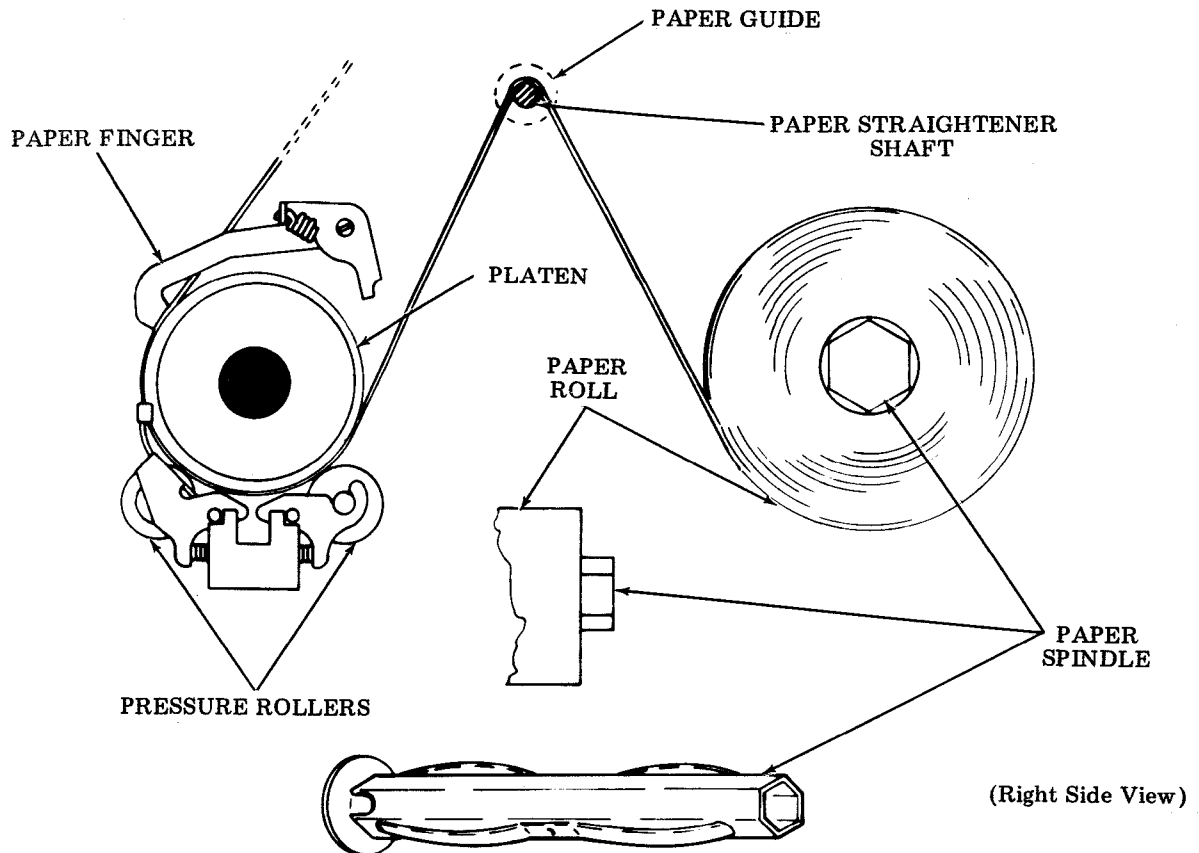

Figure 13 - Paper Routing Assembly - Friction Feed
4.16 Insert the paper spindle into the paper roll and install the paper roll into the spindle blocks. Flip the paper release lever on the top of the right side plate towards the rear of the typing unit to release the pressure rollers. Route the paper over the paper straightener between the two paper guides (Figure 13). Lift the paper finger on the platen and insert the paper between the platen and the pressure rollers. Flip the paper release lever towards the front of the typing unit to hold the paper between the platen and pressure rollers. Turn the handwheel to move the paper through the platen assembly, leaving one foot of loose paper. Lower the paper fingers on the platen assembly and hold the paper towards the front of the typing unit. Close the rear lid. Close the front lid, and position the paper between the window and the paper guide. Be sure that the cover and lids are latched.